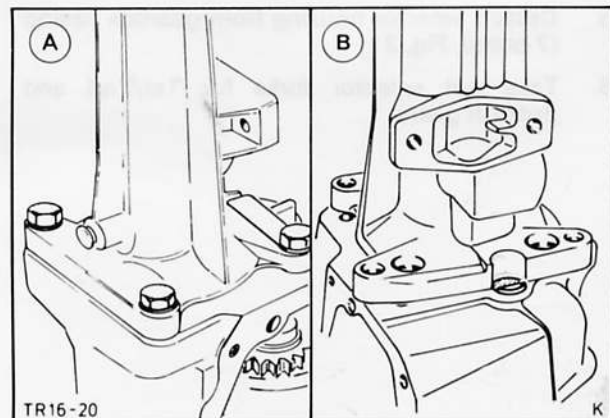

Fig. 24. With extension housing bolts removed, turn extension housing until countershaft can be removed
9. Remove 4 bolts securing extension housing, pull extension housing out of seat in gearbox casing and turn until there is sufficient space to remove countershaft, Fig. 24.